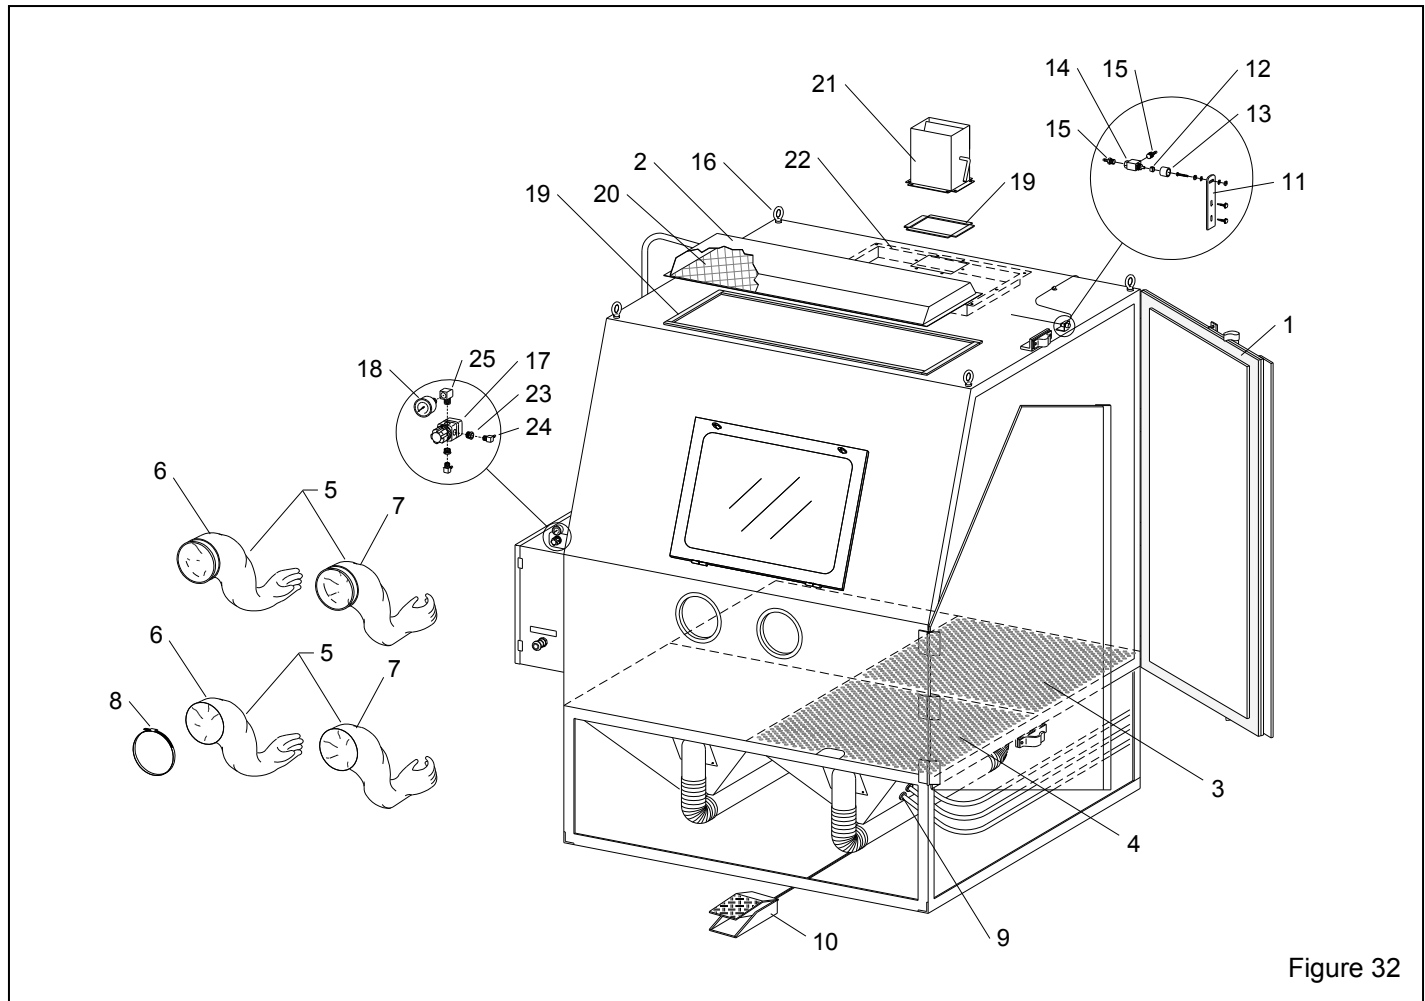

Figure 32
9.3 Cabinet Replacement Parts, Figure 32